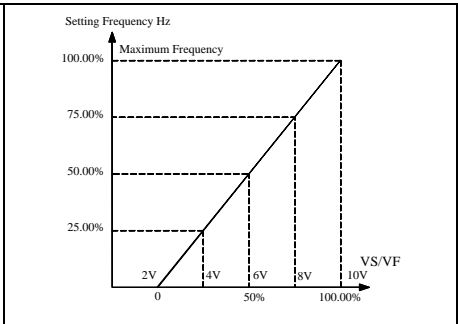

Figure 7-26 Analog Voltage Input 2~10V
**F8-00 ones place=1**, the linear range of terminal VS voltage input: 2~10V=0~100%. See Figure 7-26.
**F8-00 tens place=1**, the linear range of terminal VF voltage input: 2~10V=0~100%. See Figure 7-26.